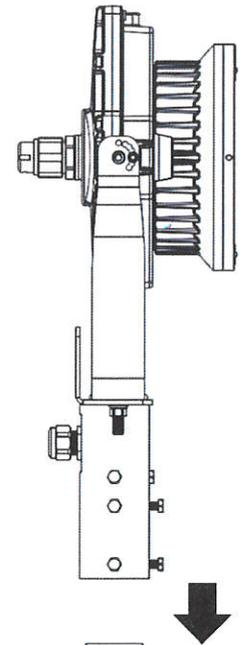

Figure 4
- ☞ The mounting type is for the use of 2 inch straight electrical tube mounting (Figure 4).